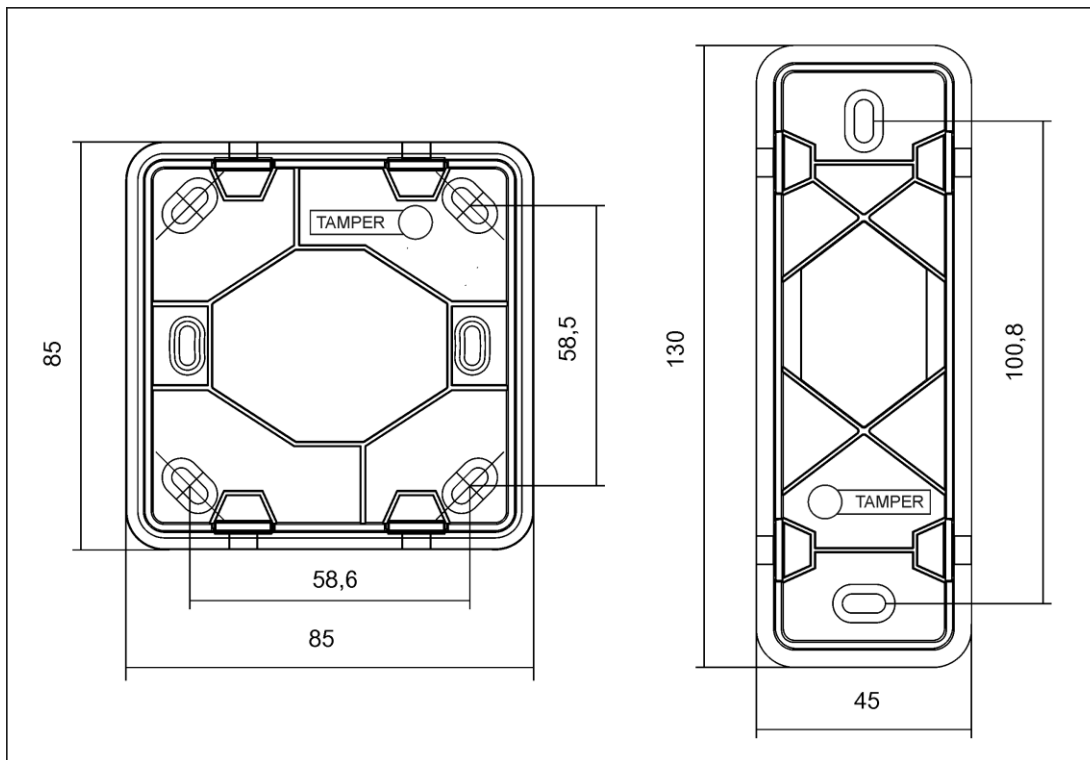

Fig. 5 Dimensions and location of Tamper lever
3. The rear panel should be mounted with use of delivered screws with orientation shown on Fig. 5 so that tamper lever leans on the surface and presses the tamper switch.